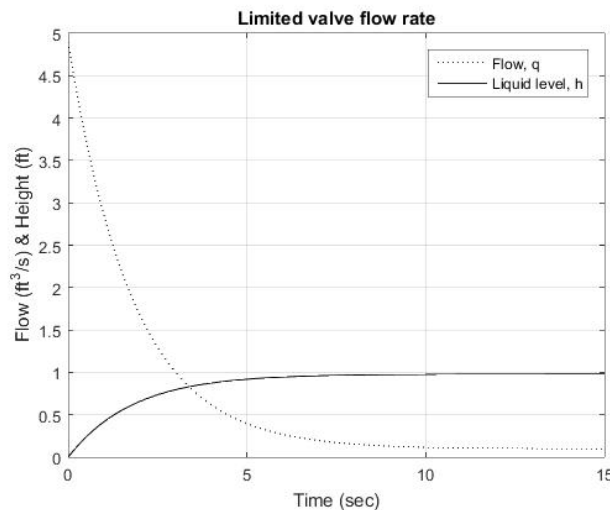

Figure 7: Plot of Simulink Model Output
6.4.5 Run the simulation (green arrow). Double click the scope and click Autoscale. If everything is set up correctly, you should see something similar to Figure 7 (minus the title, labels, and legend).